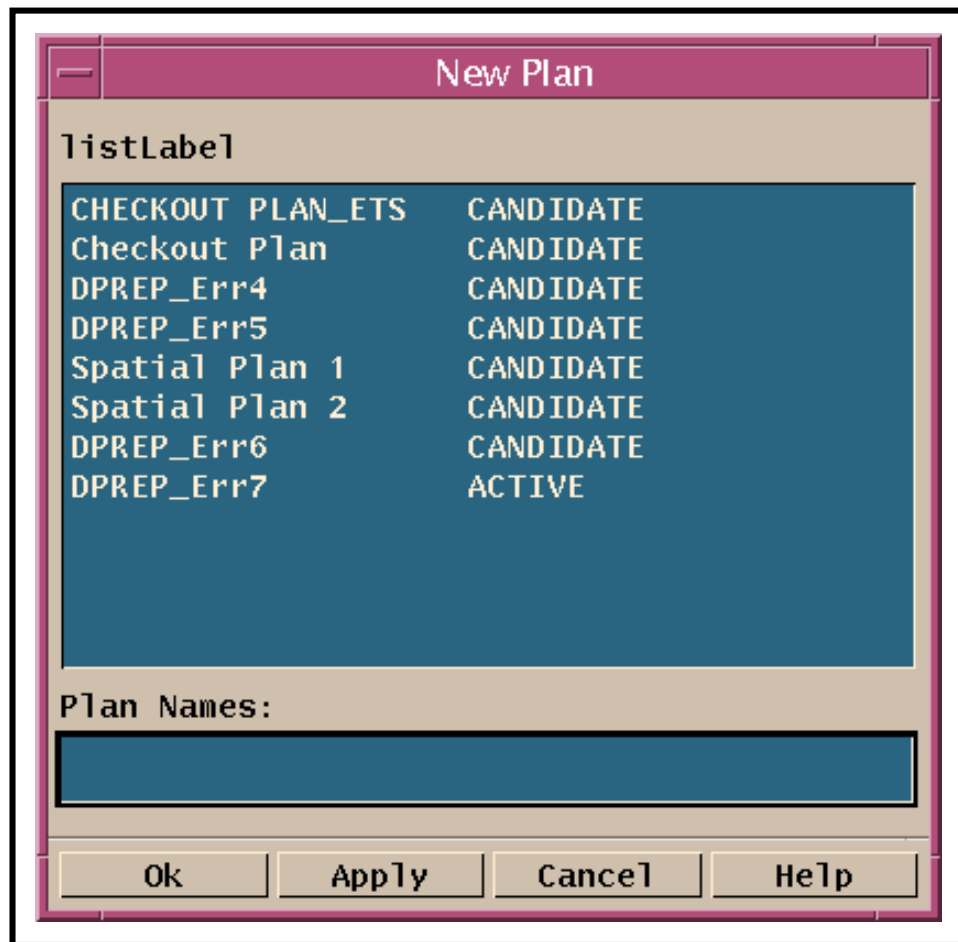

Figure 34. Planning Workbench New Plan Window
- The **New Plan** window (Figure 34) is displayed.
- Except for the title, the **Save Plan** window looks the same as the **New Plan** window (Figure 34).